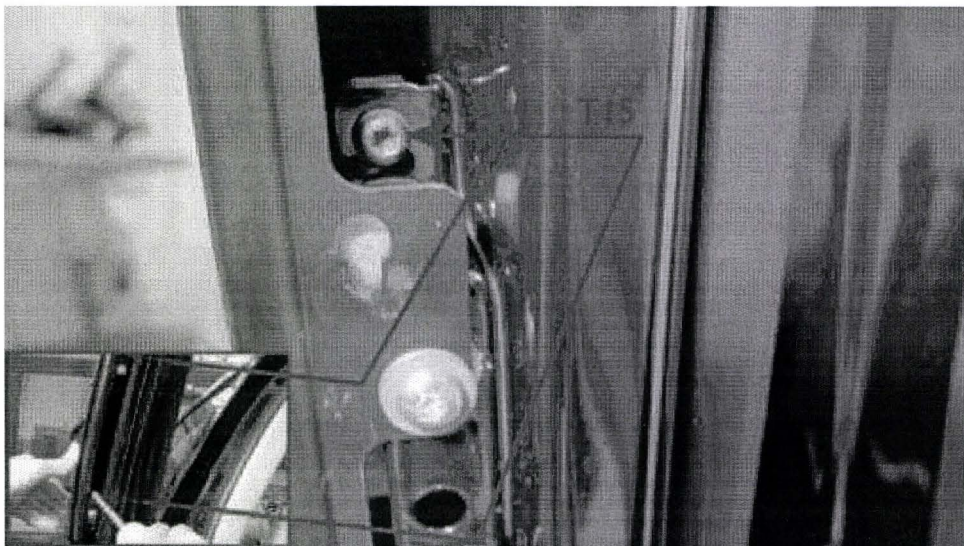

Figure 3
3. Remove the two T15 fasteners securing the outer frame finisher, remove and discard the outer frame finisher (see Figure 3)